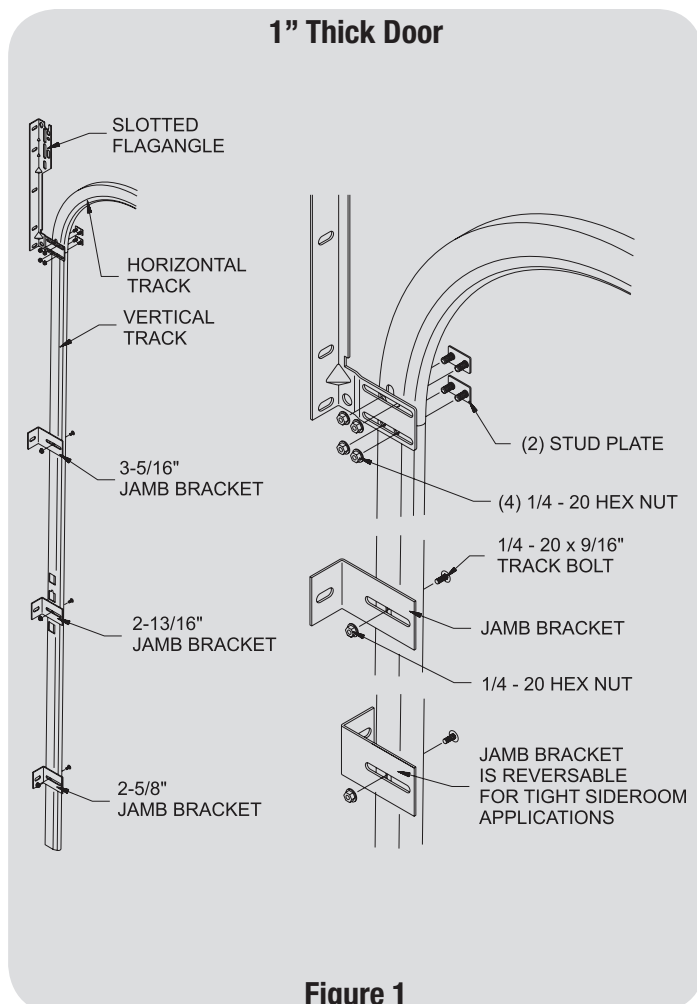
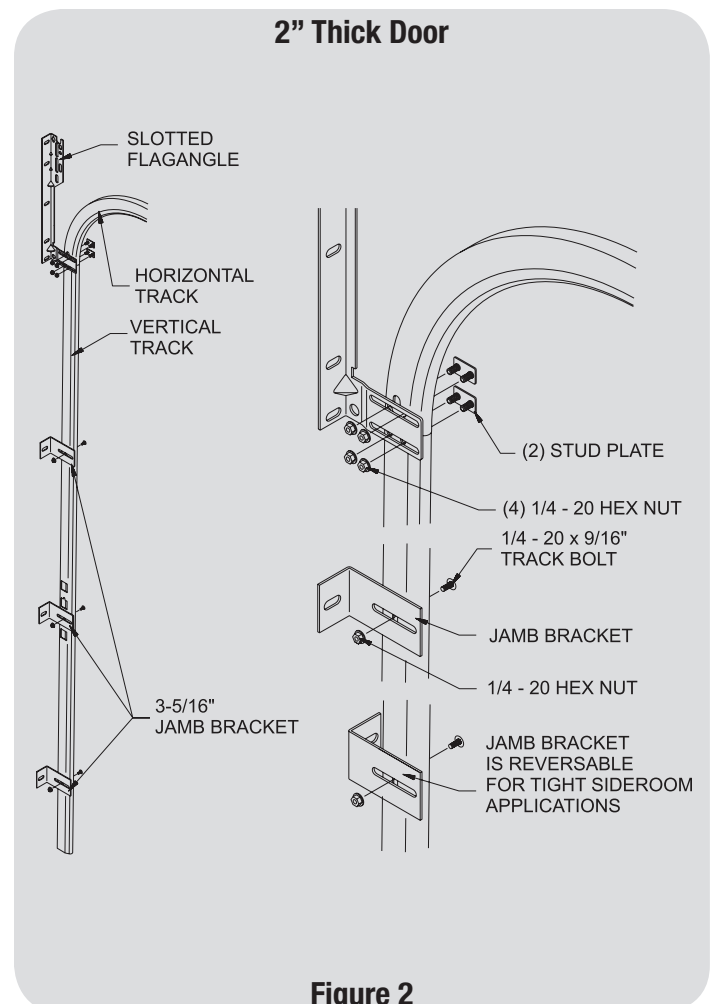

Figure 1
Figure 2
For 1" door applications follow the illustrations in Figure 1. Locate the 2-5/8" jamb bracket in the lowest vertical track position. Center the 2-13/16" and 3-5/16" jamb brackets between the flagangle & bottom jamb bracket. Secure the jamb brackets to the vertical track using a 1/4 - 20 x 9/16" track bolt & hex nut. Only two (2) jamb brackets are required for door heights 7' and under. Three (3) jamb brackets are required for door heights greater than 7'. The jamb brackets are reversible for tight sideroom applications. For 2" door applications follow the illustrations in Figure 2. Only 3-5/16" jamb brackets are required for all vertical track positions. Secure the vertical and horizontal track to the flagangle using (2) stud plates and (4) 1/4 - 20 hex nuts.